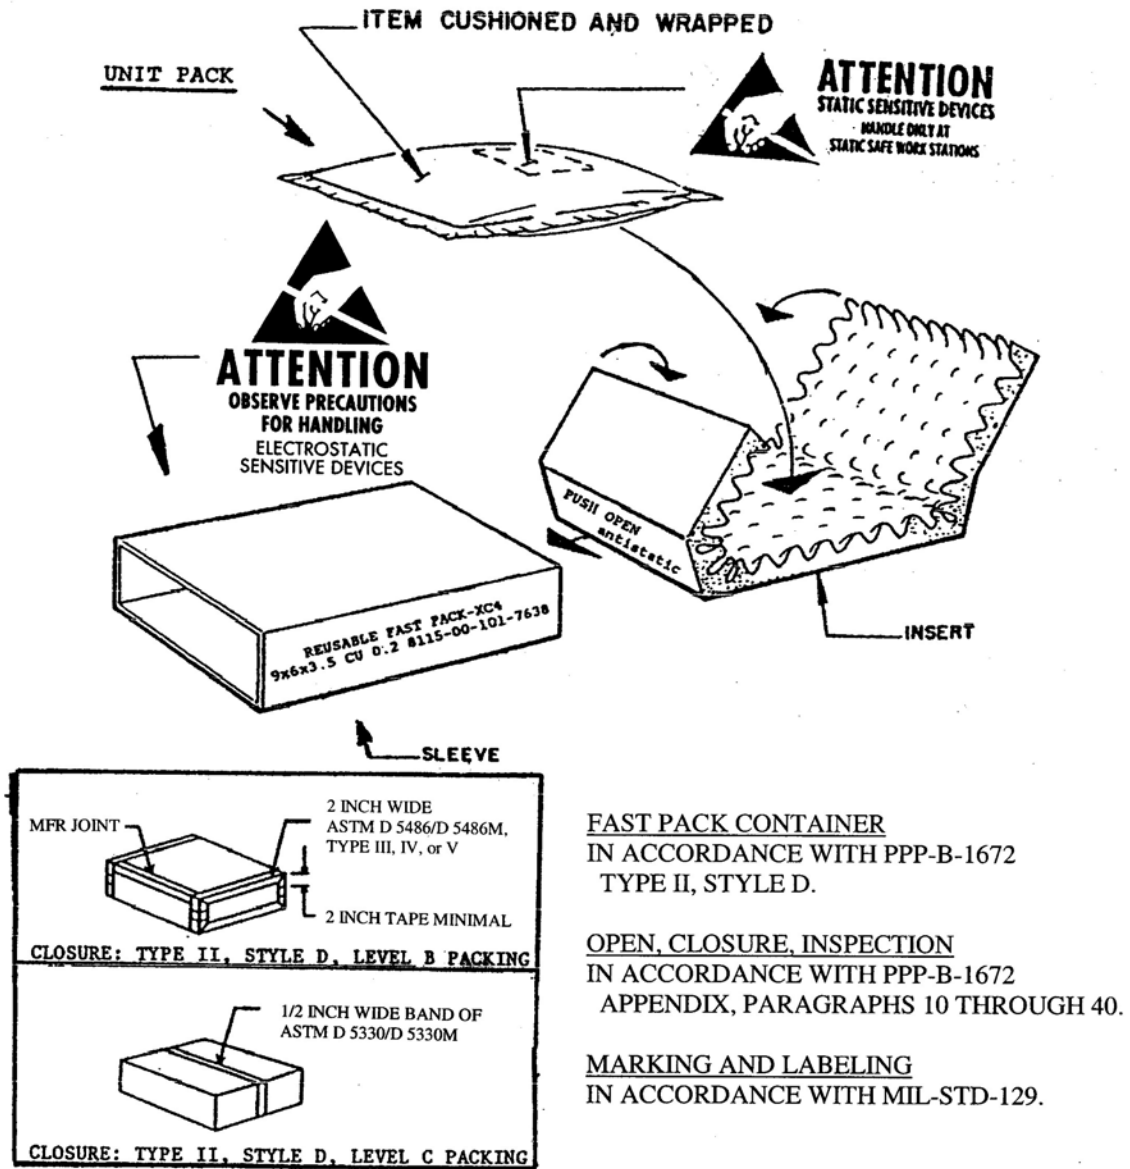

FIGURE 4. Use of PPP-B-1672, Fast Pack.
c. Place an ESDS device unit pack label (see figure 3) on the unit pack as illustrated in figure 4. In the absence of NSNs, local purchase procedures should be followed when ordering this unit pack sensitive electronic device label. Should this label be temporarily unavailable, unit packs may be marked on two opposing sides with the ESDS device symbol and the statement: "DO NOT OPEN - EXCEPT AT APPROVED FIELD FORCE PROTECTIVE WORKSTATION" or "DO NOT OPEN - EXCEPT AT APPROVED STATIC- FREE WORKSTATION."
d. Most ESDS items (for example, circuit cards, resistors, semiconductors) can utilize 1 of the 12 reusable PPP-B-1672, type II, style D, folding convoluted "fast packs," which are the only fast packs authorized for ESDS items (see figure 4). ESDS items that will not fit into 1 of the 12 authorized fast packs will be packed according to prescribed packaging instructions, or into ASTM D 5118/D 5118M fiberboard containers. Allow for antistatic cushioning, measure for desired size fiberboard container and refer to the recommended fiberboard most frequently used container list (see latest revision of MIL-STD-2073-1). The listed sizes may be requisitioned through normal supply channels. If box-making equipment is available, containers should be fabricated in accordance with ASTM D 5118/D 5118M. After closure of carton that was accomplished in accordance with ASTM D 1974, apply a sensitive intermediate, or exterior electronic device caution label on the appropriate container (see figures 3 and 4). Label and mark according to MIL-STD-129.